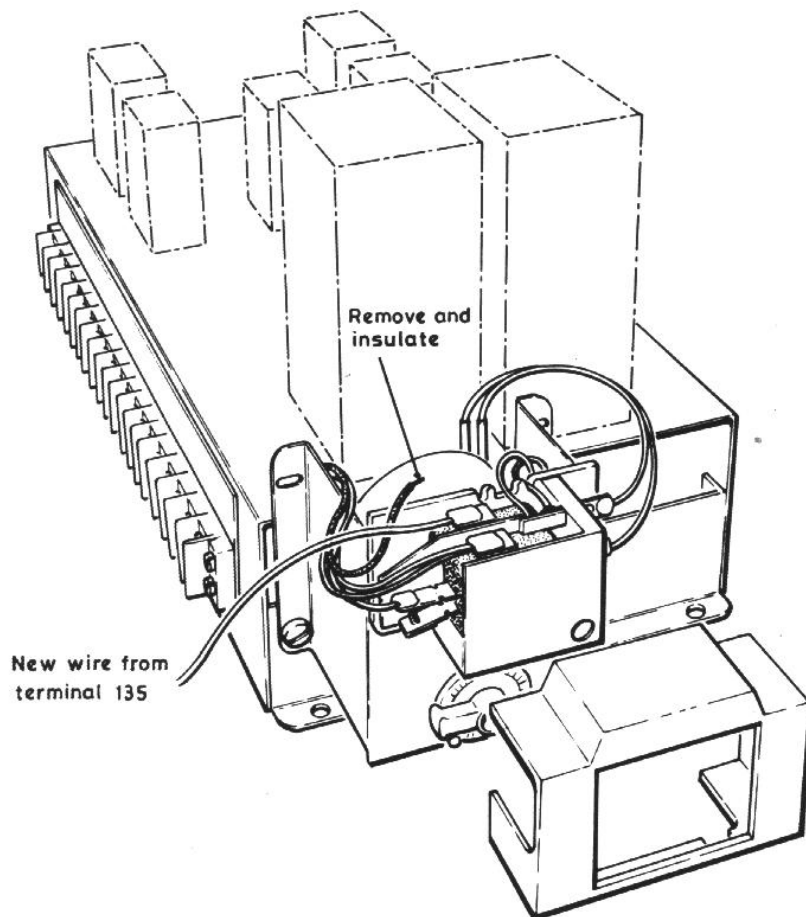

Fig.14 T1 Chassis
- J Remove the microswitch cover on the 20-second delay timer, unsolder and insulate the wire on microswitch I14 which comes from terminal 51 on TI chassis. See illustration below, Fig 14.